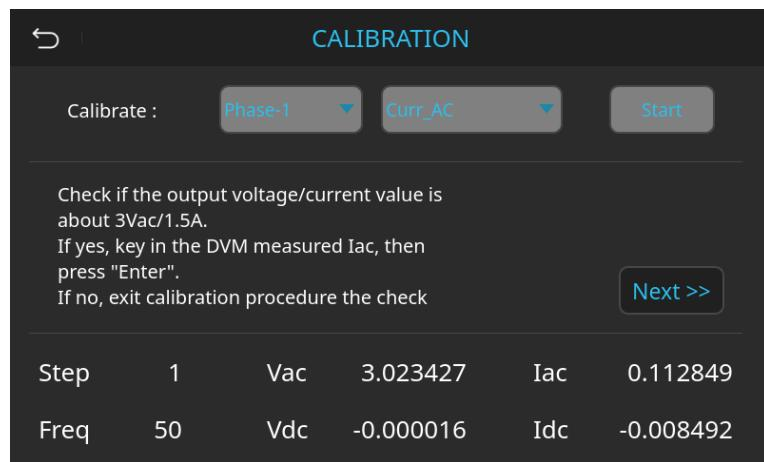

Figure 8-22 AC Output Current Calibration Procedure – Output at 3Vac
The user should use a Digital Current Ammeter (DCA) or a Power Analyzer to measure the AC output current (Iac) of the regenerative power system. At this stage, the output voltage is approximately 3Vac (as shown in Figure 8-22), and the reading should be taken in amperes (A). After measurement, enter the value into the DVM input field on the screen.